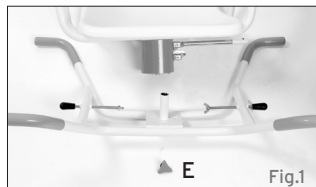

Fig.1
Put the seat in the base and fix with the screw included (E) (FIG. 1).